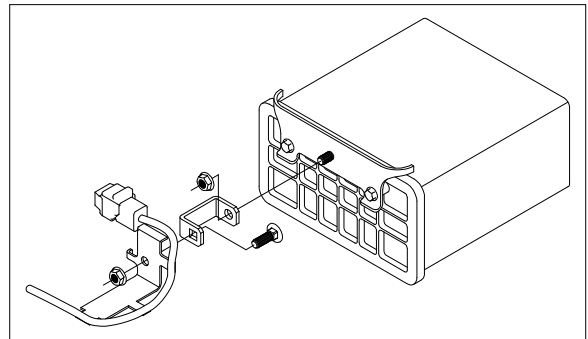

Figure E1
1. **Fuel pump control.** Re-attach the fuel pump control to the driver side frame that was removed earlier. (If air springs are being used move the relay to the inside of the side plate and mount in the holes supplied). Using the relocation bracket, 5/16" carriage bolt and 5/16" flange nut supplied, reattach the wiring bracket to the fuel canister, see Figure E1.